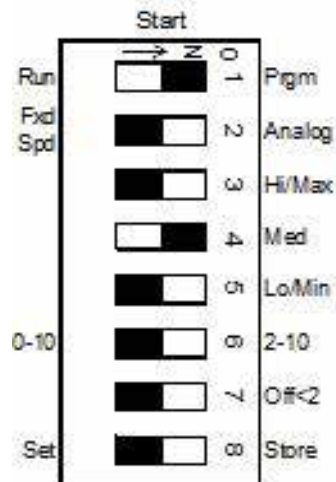

FIGURE 17 - MEDIUM SPEED ADJUST
2. **Medium speed Adjust:** Set Configuration Switch to MEDIUM SPEED adjust (see *Figure 17 on page 28*). Switches to ON-OFF-OFF-ON-OFF-OFF-OFF-OFF.
- **STORE:** Set switch 8 to Store (ON), wait one second, then to Set (OFF), to save the value.